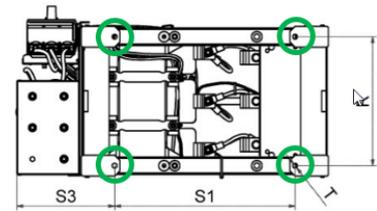
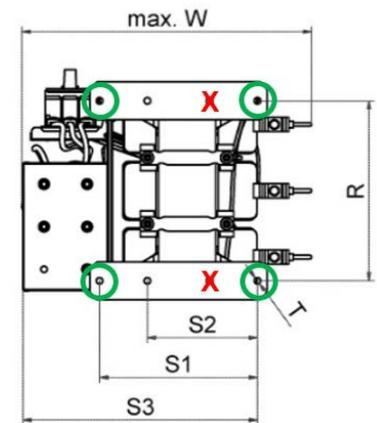

Figure 24 Fixation points for filters FN 3470, FN 3472, FN 3480 and FN 3482
Figure 25 Preferred (green) and forbidden (red) fixation points for filters FN 3471, FN 3473, FN 3481 and FN 3483
The preferred fixation points have a distance S1 between the screws on the terminal side and screws on the capacitor side as shown in Figure 25.
**Warning:** In all cases, the usage of the two fixation screws on terminal side (right side on Figure 24, Figure 25 and Figure 26) is mandatory. The usage of shorter distance than S2 between fixation points and usage of less than 4 fixation screws is forbidden and could result in damage to the product and serious injuries.